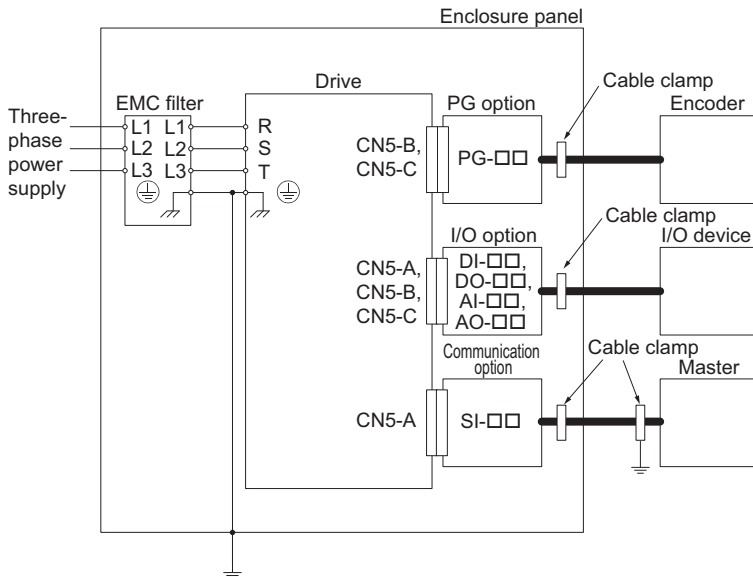

Figure 23 Option Installation for CE Compliance (PG-□□, DI-□□, DO-□□, AI-□□, AO-□□, SI-□□)
2. Keep wiring as short as possible and ground the largest possible surface area of the shield to the metal panel according to Figure 23.